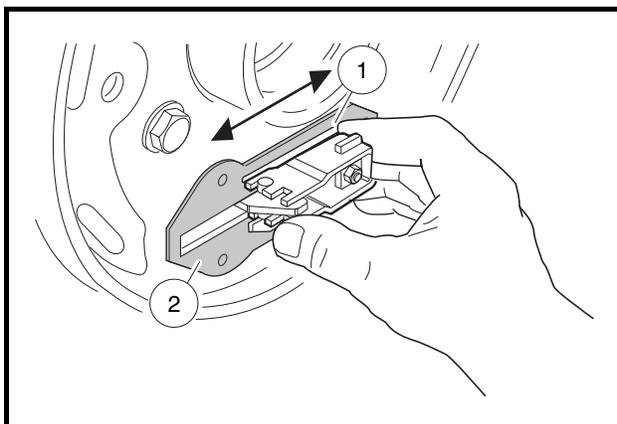

Figure 6-19 Lubricate Slide
3. Lubricate slide (1) and slide plate (2) with dry moly lubricant (CCI P/N 1012151) on both sides of the backing plate. After lubricating, work slide back and forth to ensure it slides smoothly and easily (Figure 6-19, Page 6-9). Reinstall rubber boot onto backing plate. **See following WARNING.**